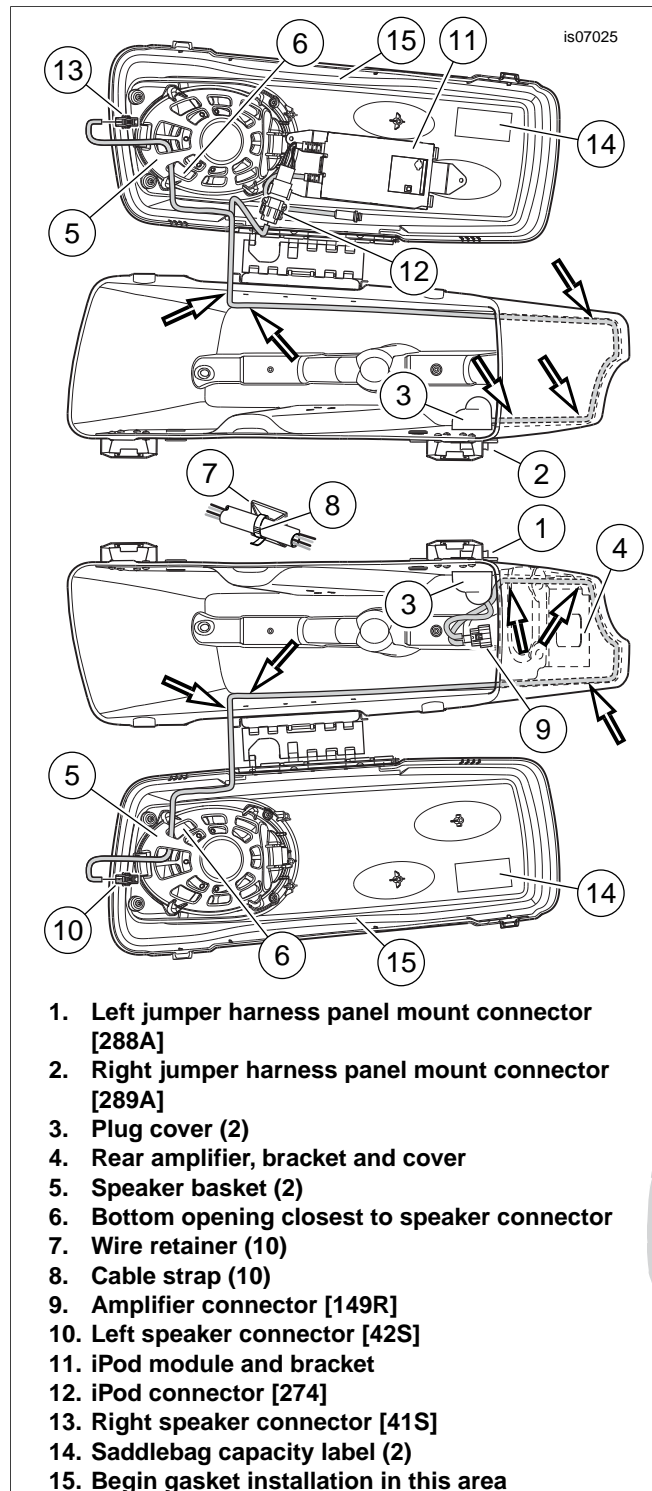

Figure 8. Harness Routing Inside Saddlebags
- Begin gasket installation in the center of the inboard side of the lid, opposite the hinge (see Figure 8, Item 15).
3. See Figure 8. Install the plug cover (3) over the panel mount connector (1) and jumper harness from the **inside** of the saddlebag. Insert two screws through the connector flange and saddlebag wall, and into the threaded holes in the plug cover. Tighten to 35-40 **in-lbs** (3.95-4.52 N-m)
5. Route connector [42S] through the bottom opening (6) of the speaker basket (5) closest to the speaker connector, and plug into the speaker connector.
6. Get five wire retainers (7) and five cable straps (8) from the kit. Remove the liner from the adhesive backing of each wire retainer and affix to the inside walls of the saddlebag, about one inch (25 mm) above the bottom of the saddlebag as shown. Fasten the jumper harness to the wire retainers with the cable straps.
- See Figure 8. Route **both** legs of the harness downward, then rearward around to the outboard wall and upward in front of the saddlebag lid tether to the saddlebag lid.
2. Route connector [41S] (Item 13) through the bottom opening (6) of the speaker basket (5) closest to the speaker connector, and plug into the speaker connector.
3. Affix five wire retainers (7) to the inside walls of the saddlebag, about one inch (25 mm) above the bottom of the saddlebag as shown. Fasten the jumper harness to the wire retainers with cable straps (8).